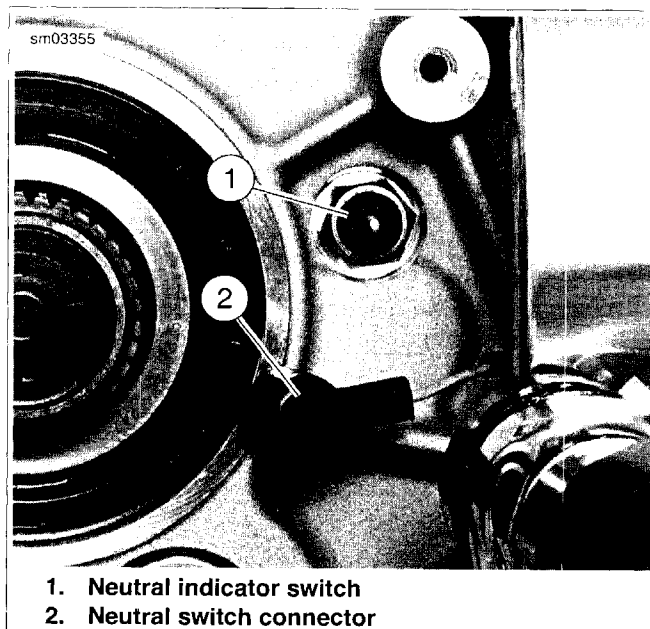

Figure 5-50. Neutral Switch and Connector
8. Place transmission in neutral. See Figure 5-50. Unplug neutral switch connector [131] (2) by pulling connector straight off neutral switch (1). Remove neutral switch and flat washer.